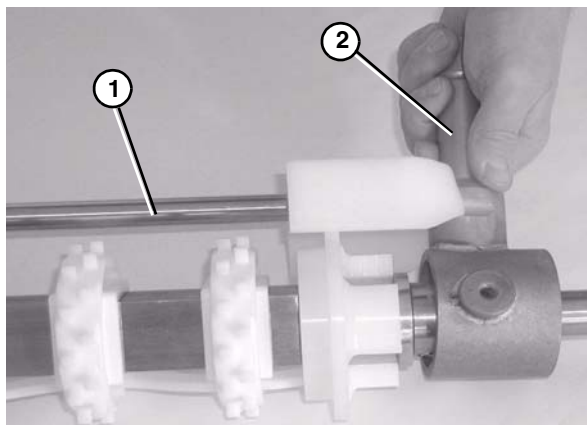

Figure 73
10. Attach the guard bar (**Figure 73, item 1**) to the bearing / motor mount bracket shafts (**Figure 73, item 2**).